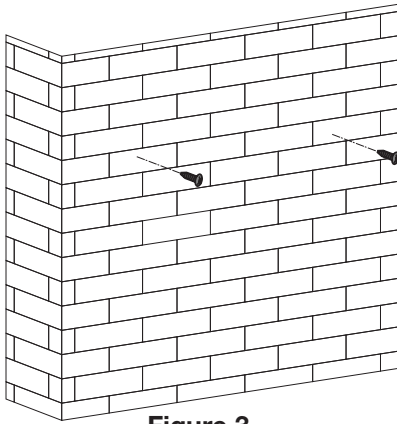

Figure 3
- Insert the wall plugs in the holes, then screw 2 ST4 × 30 mm screws in the holes. See figure 3.